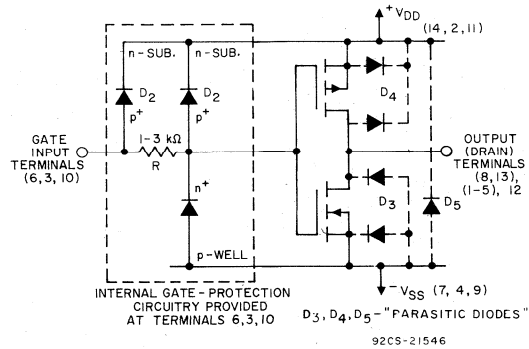

Fig. 34—Integral protection circuits used in CA3600E.
Fig. 34 shows a protection circuit5,8 which is incorporated at each gate-lead of the CA3600E. A typical value of 1 to 3 kilohms is used for the input resistor R, which functions in combination with the capacitance of the gate and the associated protective diode to integrate and clamp input voltages to a safe level. This circuit also shows the "substrate diodes" ( $D_3, D_4,$  and  $D_5$ ) which provide protection to the MOS channels at the output terminals.
4. Signals from low-impedance sources should not be applied to the gate terminals while the power supply is off. As a corollary, it follows that the power supply should not be turned off while a signal from a low-impedance source is being applied to any gate terminal. When the  $V_{DD}$  supply is off, the positive "back-bias" voltage is removed from the cathode of diode  $D_2$  (see Fig. 34). Consequently, an input signal with positive-going polarity can drive  $D_2$  into conduction. Under these conditions a low-impedance signal source can provide sufficient current to permanently damage  $D_2$  and/or melt aluminum interconnection paths. Therefore, if, in any system design using the CA3600E, any gate input excursion is expected to exceed  $+V_{DD}$  or fall below  $-V_{SS}$ , the current through the input diodes should be limited to 100  $\mu A$ .